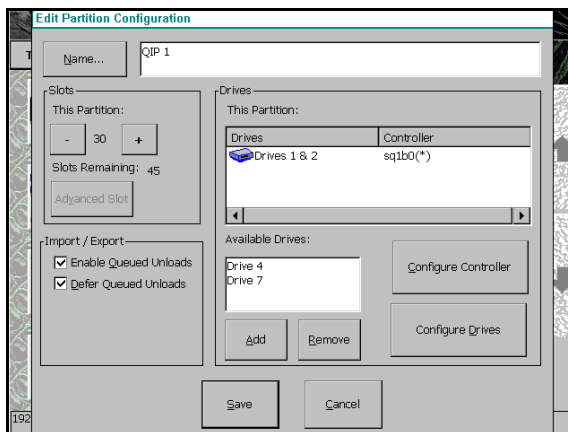

Figure 5-3 *Edit Partition Configuration window.*
3. Tap **Edit**. The Edit Partition Configuration window appears (Figure 5-3).